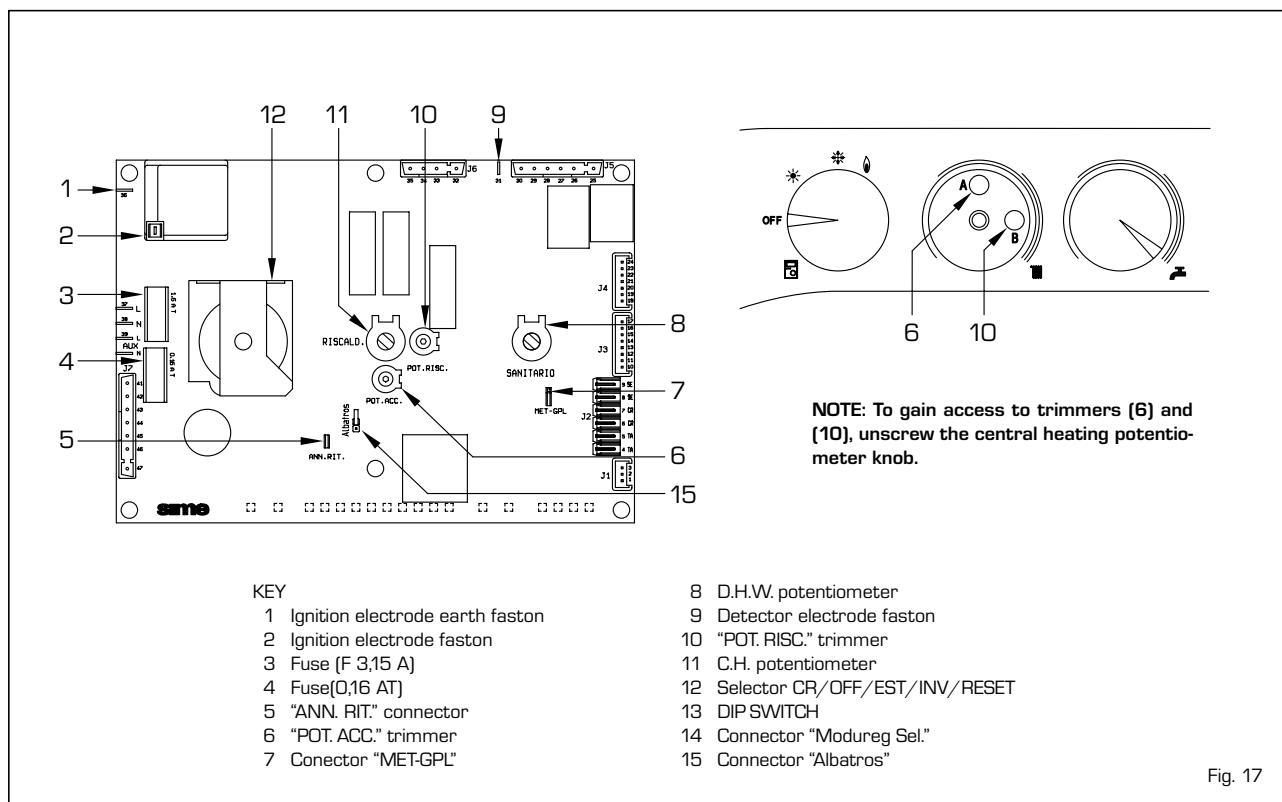

Fig. 17
- **"POT. RISC." trimmer** (10 fig. 17)
- **"POT. ACC." trimmer** (6 fig. 17)
- **"MET-GPL" connector** (7 fig. 17)
- **"ANN. RIT." connector** (5 fig. 17):
- **Connector Modureg Sel.** (14 fig. 17)
- **Connector "Albatros"** [15 fig. 17]